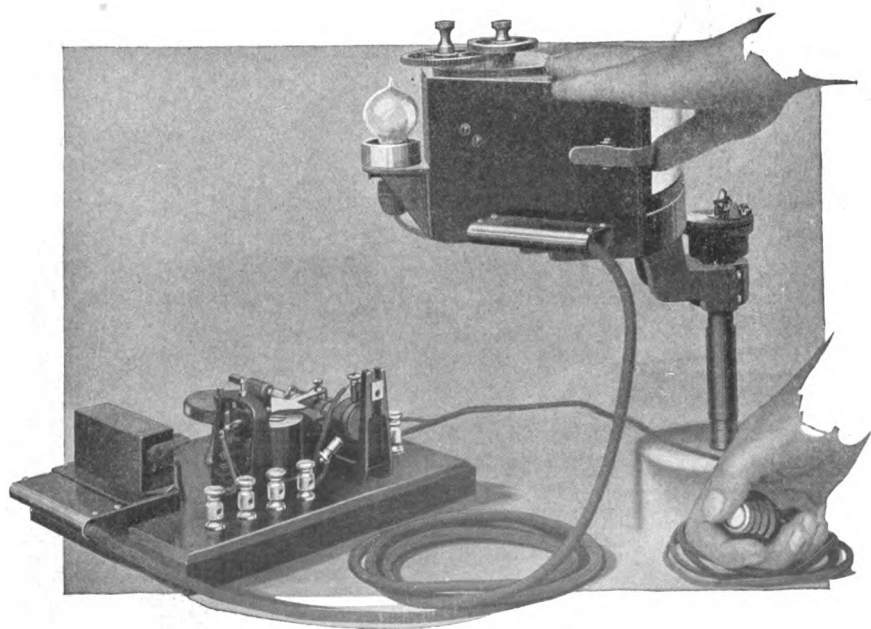

Fig. 57d. The Photographic System
*Photographic System.* This system, Fig. 57d, is so constructed that a light is produced bright enough to develop a sharp black line on the photographic bromide paper during one complete cycle of operation only. To produce this bright light a 10-volt battery is used in connection with the original 6-volt battery. A device is connected to the crank shaft so that 16 volts can be applied to the bulb for one complete cycle of operation only. The